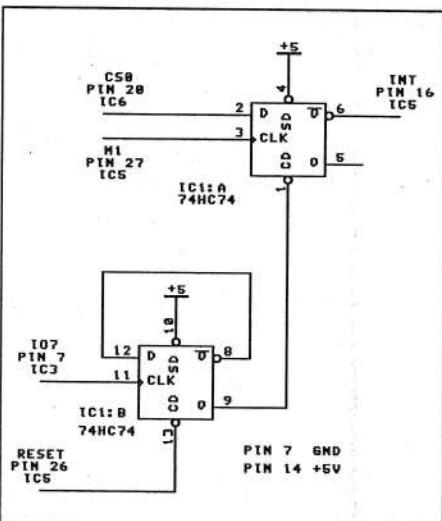

Figure 8. Improved Hardware Single Step Circuit.
**Improved Single Step Hardware.** Figure 8 is an enhancement to allow software control of the single stepper. If you want to have single stepping capability on your Southern Cross then this is the modification you should make. IC1:B is configured to provide a change of state each time IO7 is accessed. This output is used to hold the single stepper reset when it is not required. The connection to the system RESET ensures that the latch always starts out with the stepper disabled.